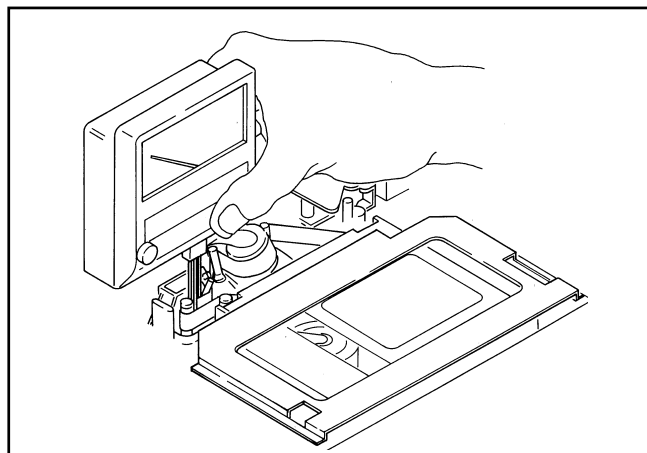

Figure 1-11-2
1. Insert the tension meter between S3 post and S4 post as shown in figure 1-11-2.